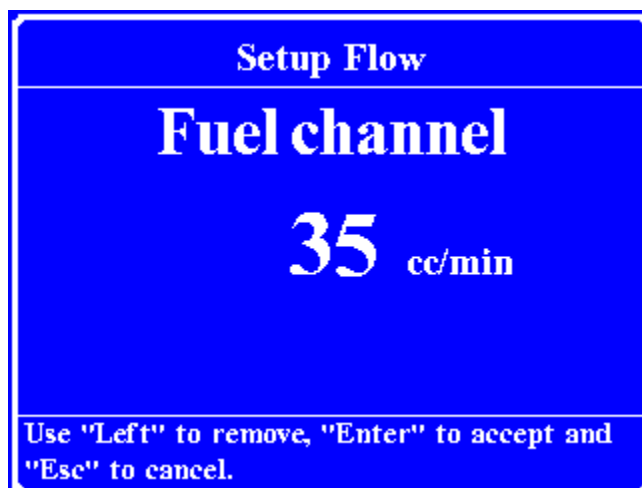

Figure 5-10. Flow Setup Screen
2. Press Enter to open the Setup Flow screen. See figure 5-10.